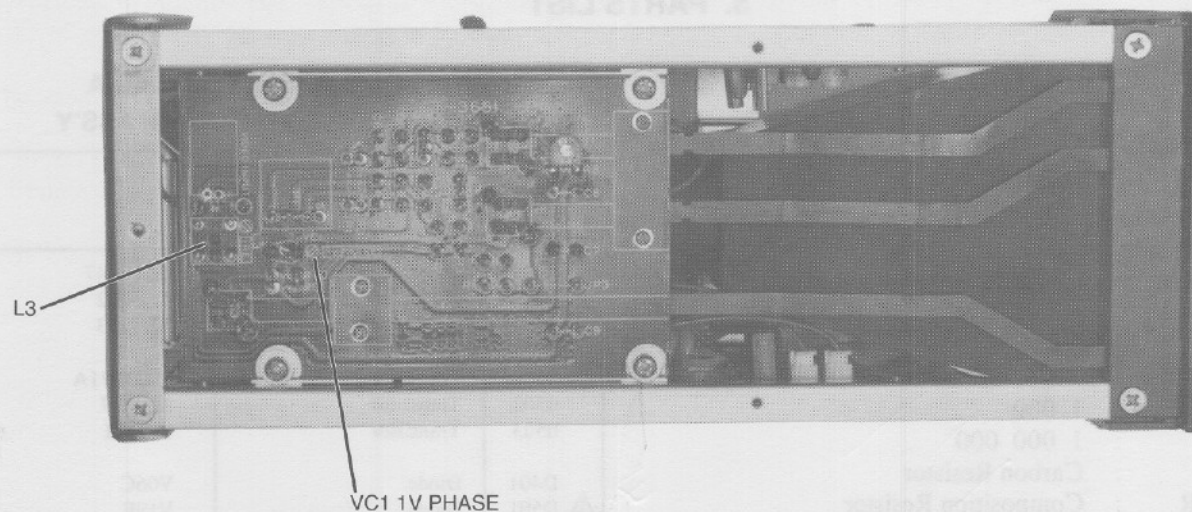

Figure 4-6. Switch PC board, T3651
8. Adjust VC1 on the switch board for the fastest rise time at the leading edge of the windows signal with minimum overshoot. Refer to Figures 4-6 and 4-7.